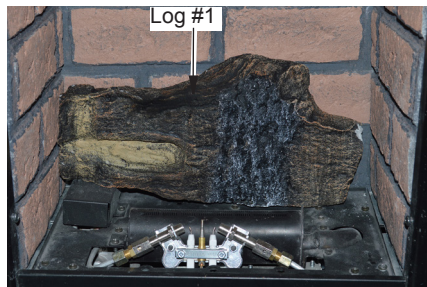

Figure 19 - Installing Log #1
1. Install log #1 on the rear plate as shown in Figure 19.